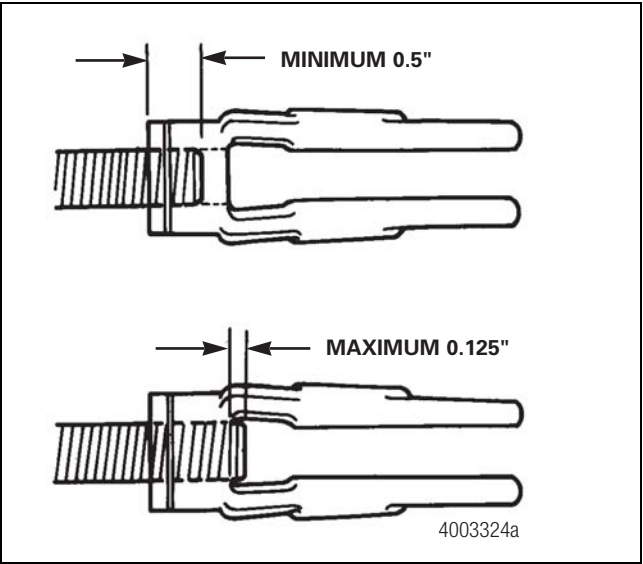

Figure 12.23
- The push rod must not extend through the clevis more than 0.125-inch (3.18 mm). Figure 12.23.